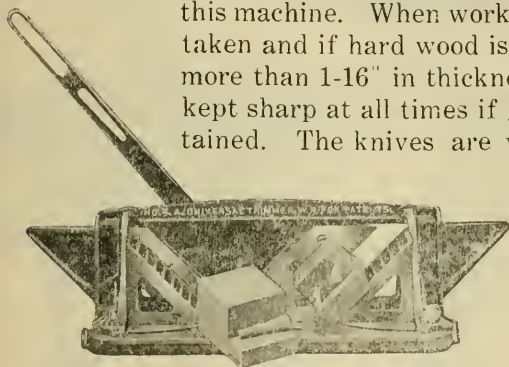

Fig. 58--TRIMMING INTO A CHECK
63. General. Trimmers,-- Figs. 58 to 62, were invented primarily for the use of pattern makers and when used for other processes should be used only after you have learned to preform these operations thoroughly and quickly by hand. This machine, like the miter saw, should not be used by beginners in order to avoid learning to do the various process by hand. Always take very thin cuts when using this machine. When working soft wood $\frac{1}{8}$ " cut may be taken and if hard wood is used, the cut should not be more than 1-16" in thickness. The machine must be kept sharp at all times if good results are to be obtained. The knives are very hard and in grinding
show the possible range of work by means of auxiliary gauges which are furnished with most trimmers. Fig. 58 illustrates the trimming of a shoulder for either a half lap or a tenon. This is called trimming into a check. The gauge as well as the knife stands at an angle of 45 degrees, which makes it possible to trim down to the bottom leaving a square and smooth surface.